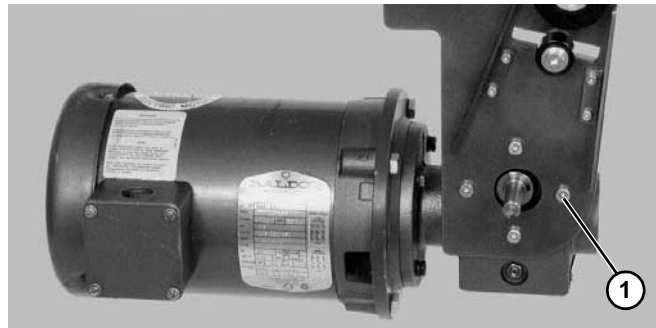

Figure 36
4. Remove four (4) gear reducer mounting screws (**Figure 36, item 1**). Remove gear reducer and gearmotor assembly.